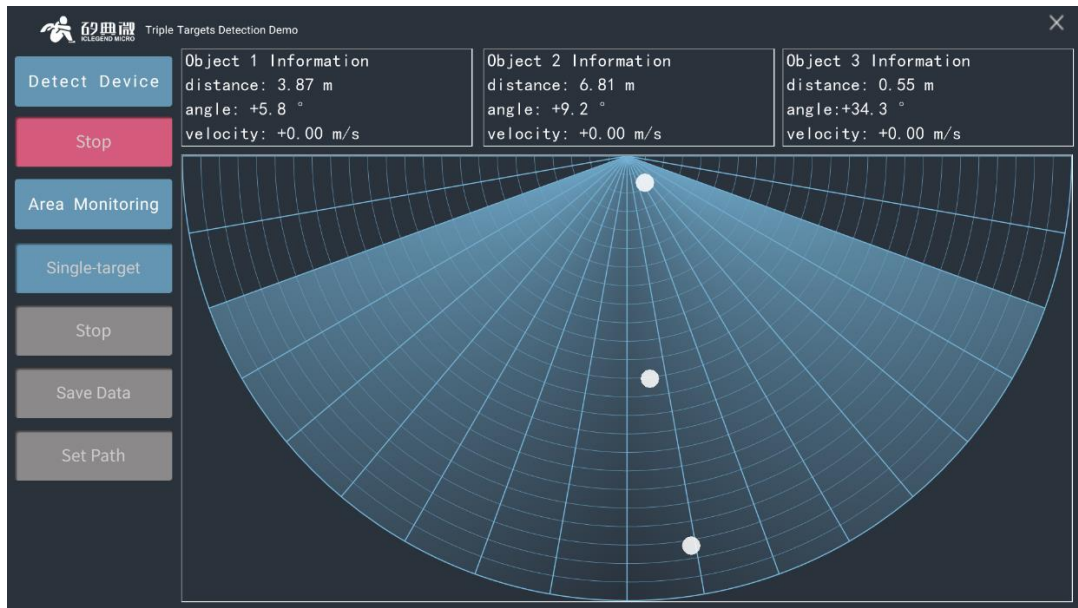

Figure 4-7 Example of triple-target detection demonstration
Step 4(Optional): By default, the software works in Single Target Detection mode, to switch to Multiple Target Detection mode, click the **Multi-target /Single-target** toggle button, the Triple Targets Detection Demo⁴ will appear, as shown in Figure 4-7; to switch back to Single Target Detection Mode⁵, click the **Multi-target /Single-target** toggle button again.